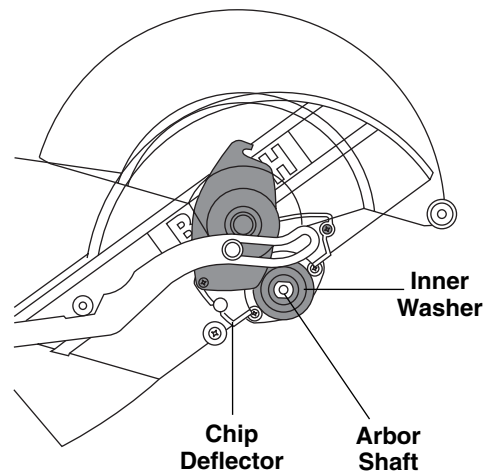

Figure 3. Blade Installation
6. To install the 12" blade, fit blade between the chip deflectors and onto the arbor shaft, and onto 1" support ring on the inner washer (Figure 3). NOTE: Make sure the rotation arrow on the blade matches the clockwise rotation arrow on the lower guard.